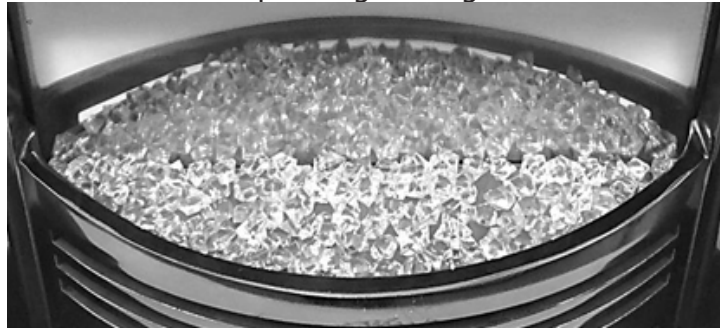

Fig. 1
1. Place crystals on fuelbed, covering the top surface of the fuelbed. These will provide a glowing embers effect, when the flame effect is operating. See Fig.1 below.